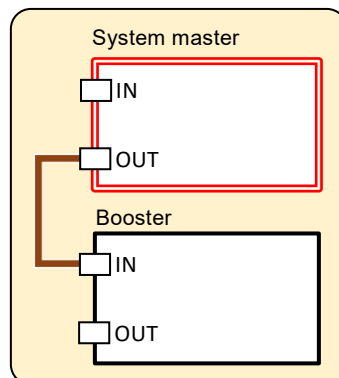

Figure 2-5 Maximum System Configuration
Figure 2-5 shows the connection of the SYSTEM connector of each unit.
1. Connect the system cable to the SYSTEM connector while referring to *Figure 2-5*.